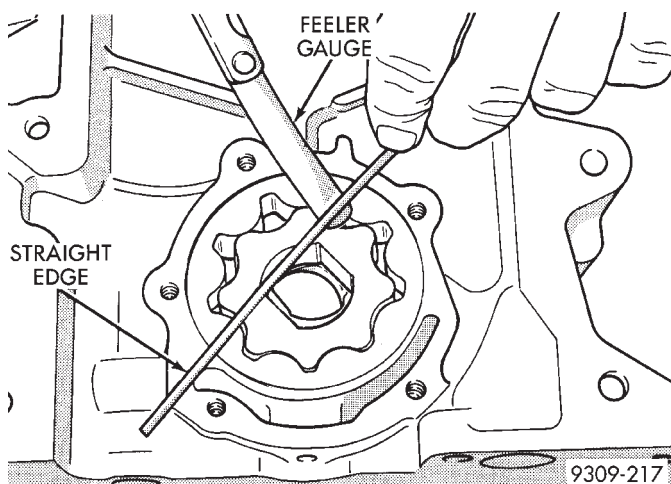

Fig. 83 Measuring Clearance Over Rotors
(9) Place a straightedge across the face of the chain case cover, between bolt holes. If a feeler gauge of 0.10 mm (0.004 in.) or more can be inserted between rotors and the straightedge, replace pump assembly (Fig. 83). **ONLY** if rotors are in specification.
(10) Inspect oil pressure relief valve plunger for scoring and free operation in its bore. Small marks may be removed with 400-grit wet or dry sandpaper.
(11) The relief valve spring has a free length of approximately 49.5 mm (1.95 inches) it should test between 19.5 and 20.5 pounds when compressed to 34 mm (1-11/32 inches). Replace spring that fails to meet specifications.
(12) If oil pressure is low and pump is within specifications, inspect for worn engine bearings or other reasons for oil pressure loss.
(13) Assemble pump, using new parts as required. **Install the inner rotor with chamfer facing the cast iron oil pump cover.**
(14) Tighten cover screws to 12 N·m (105 in. lbs.).
(15) Prime oil pump before installation by filling rotor cavity with engine oil.
(16) Install chain case cover slowly refer to Timing Chain Cover Installation of this section.